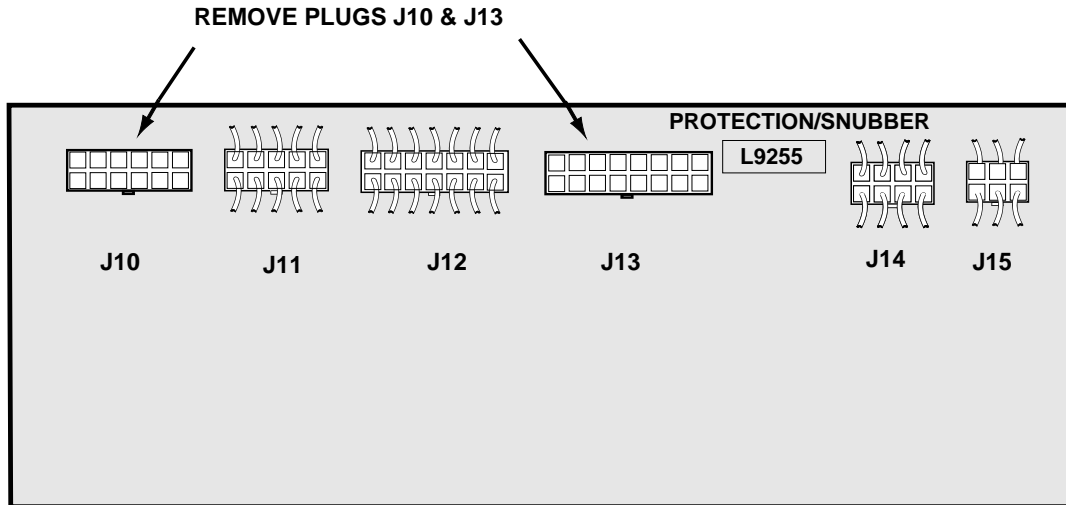

FIGURE F.11 - PROTECTION BOARD PLUG LOCATIONS
2. Remove plug J10 and J13 from the protection/snubber board. Refer to Figure F.11.